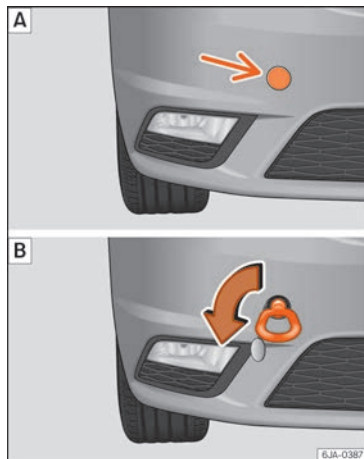

Fig. 85 Front bumper: towline anchorage cover/fitting.
- Press on the left of the cover as indicated by the arrow »» **Fig. 85 A**.
- Screw in the towline anchorage anti-clockwise by hand as far as it will go »» Fig. 85 [B].